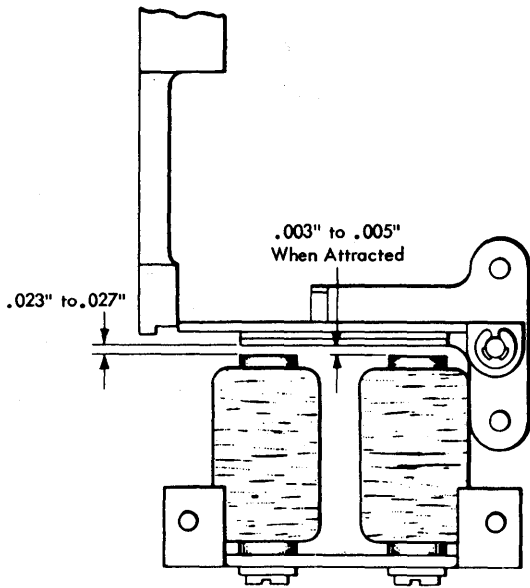

Figure 4-17. Punch Clutch Magnet Core to Armature Clearance
6. With the armature against its stop, adjust the magnet assembly for .023" to .027" clearance between armature and magnet core farthest from the pivot. Adjust for .003" to .005" clearance between armature and the magnet core which is nearest pivot when armature is attracted (Figure 4-17).